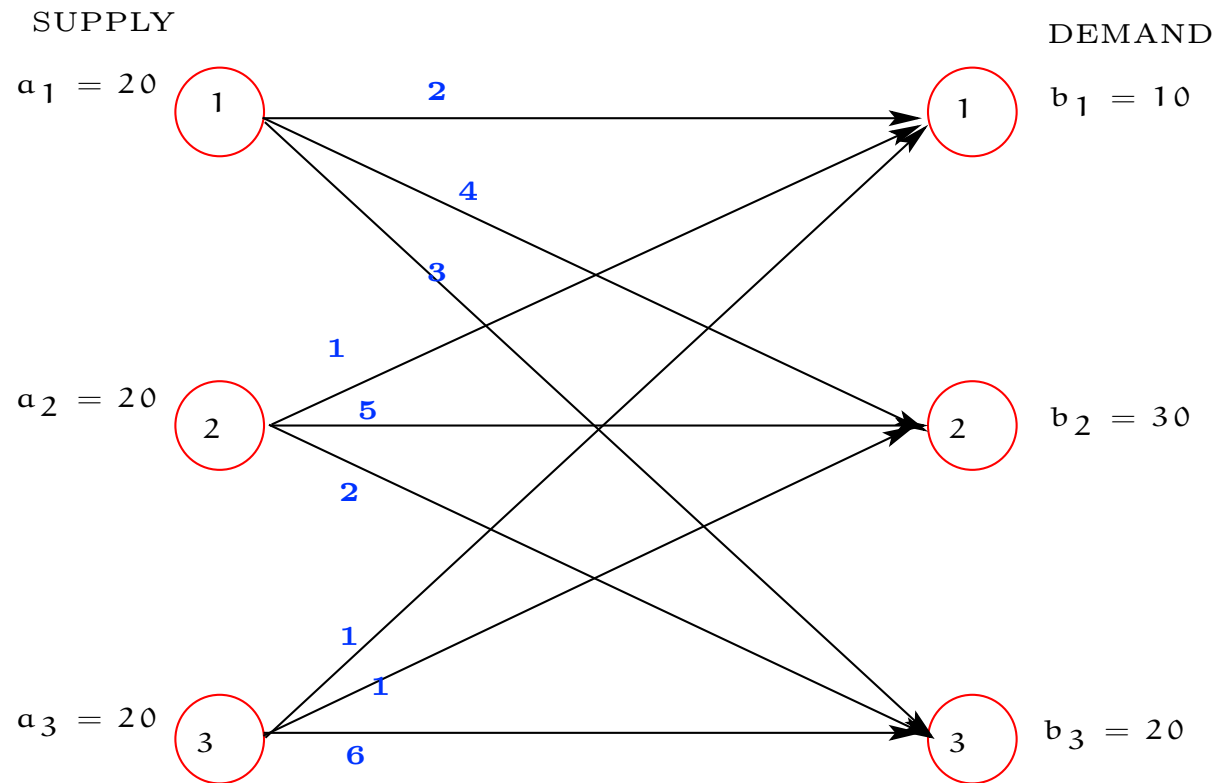

Figure 5: Transportation network with three supply & three demand points. The unit shipping costs are given in **blue** on each arrow.
- The network associated with this problem is shown in Fig. 5.
- To see the special LP structure of a transportation problem, consider the toy example in Fig. 5.
- To see how to do it, look again at the network diagram in Fig. 5.
- Looking at Fig. 5, start with the first source node, S_1 (in the NW corner) and ship as much as possible to the first destination D_1 .
- When I used the NWCR to construct the solution in Fig. 5, I constructed a feasible solution by sequentially assigning values to $m + n - 1$ variables so any assignment didn't affect the value of a variable already assigned.